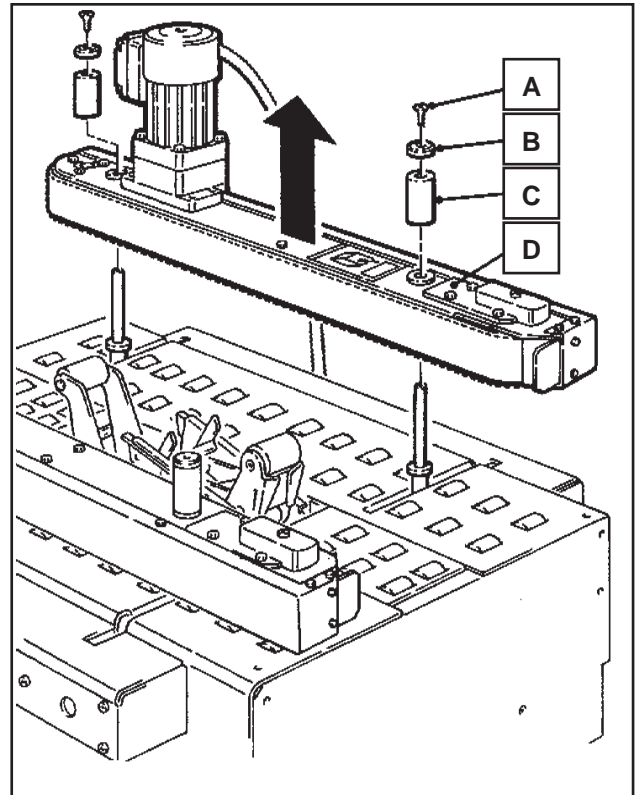
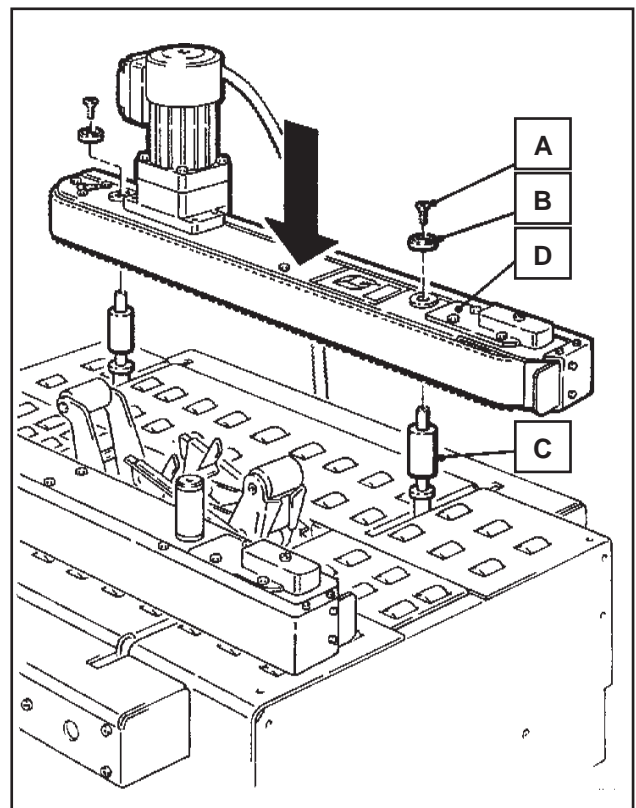

Figure 13-6 Drive Belt Assembly - Disassembly
Figure 13-7 Drive Belt Assembly - Reassembly
**Disassemble – Figure 13-6**
2. Remove and retain the screw (A), cap washer (B) and spacer (C) from the front and rear arm assembly pivots.
3. Lift belt drive assembly (D) up off the arm assembly pivots.
**Reassemble – Figure 13-7**
4. Reassemble the spacer (C) onto the front and rear arm assembly pivots.
5. Install the belt drive assembly (D) onto the pivots and secure with the cap washers (B) and screws (A).